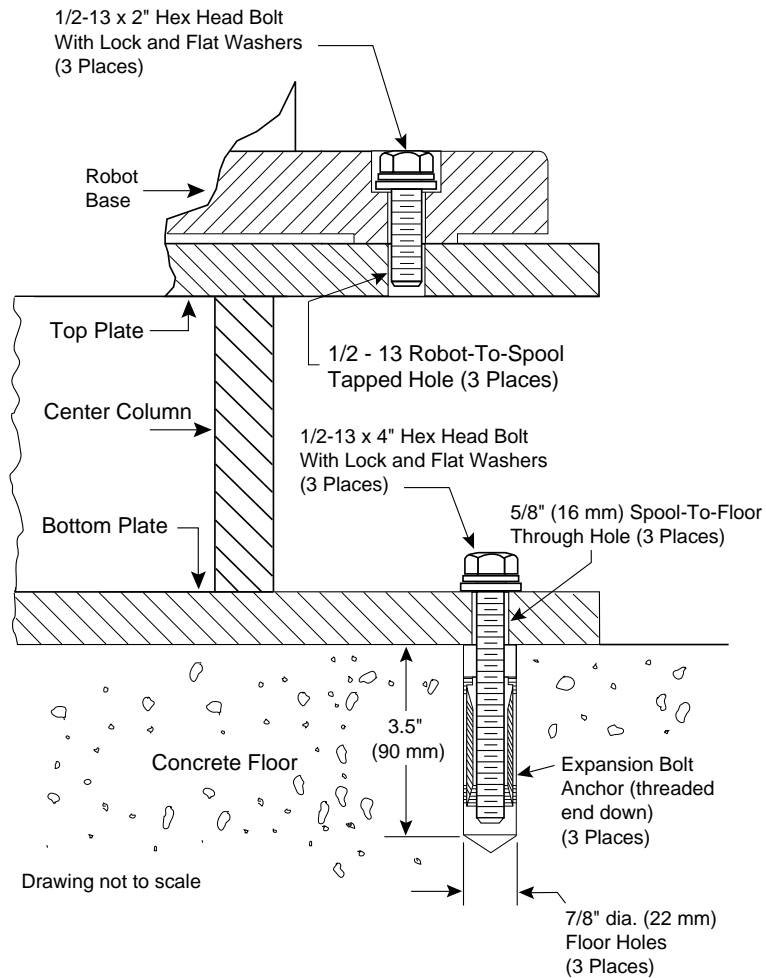

Figure 2-6. Mounting Spool-to-Floor Installation Detail
The following sequence details the installation of the robot-mounting spool to the floor. (See Figure 2-6.)
2. Prepare the opposite flange of the mounting spool by drilling three 16 mm (5/8-inch) diameter through holes, as shown in Figure 2-6, for spool-to-floor anchoring.
6. Insert an expansion bolt anchor into each of the three holes in the floor. Ensure that the threaded end of each bolt anchor is toward the bottom of each hole, as shown in Figure 2-6.